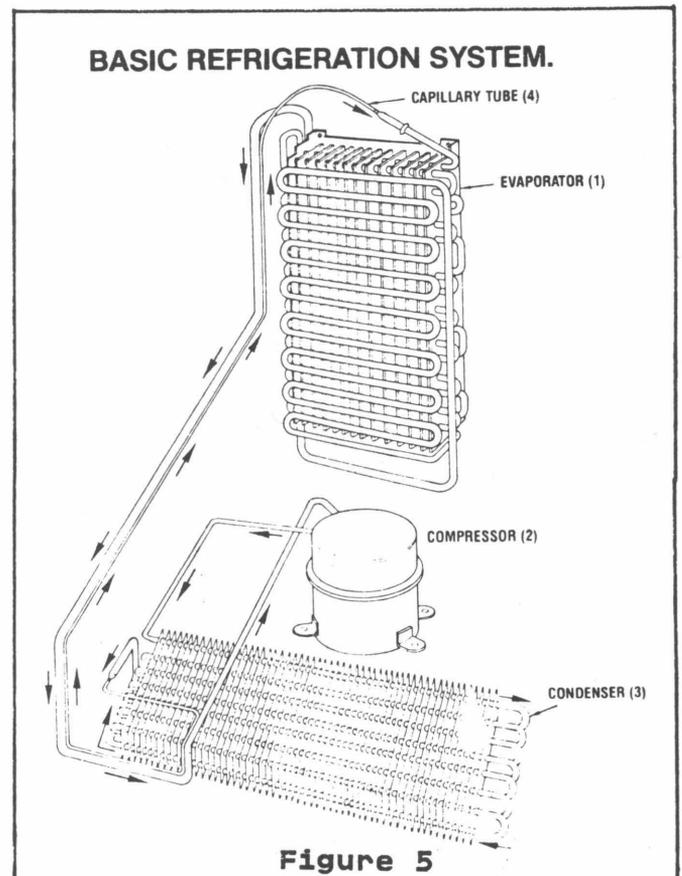

Figure 5
The refrigeration system works this way (Fig. 5). Liquid refrigerant boils inside the evaporator (1). As the refrigerant boils, the evaporator becomes very cold and soaks up heat from inside the cabinet. Vapor from the evaporator is then drawn into the compressor (2). The compressor pressurizes the vapor and sends it to the condenser (3). The hot vapor inside the condenser gives off heat into the room. As the vapor cools, it condenses back to a liquid. The liquid refrigerant is then sent back to the evaporator through the capillary tube (4).